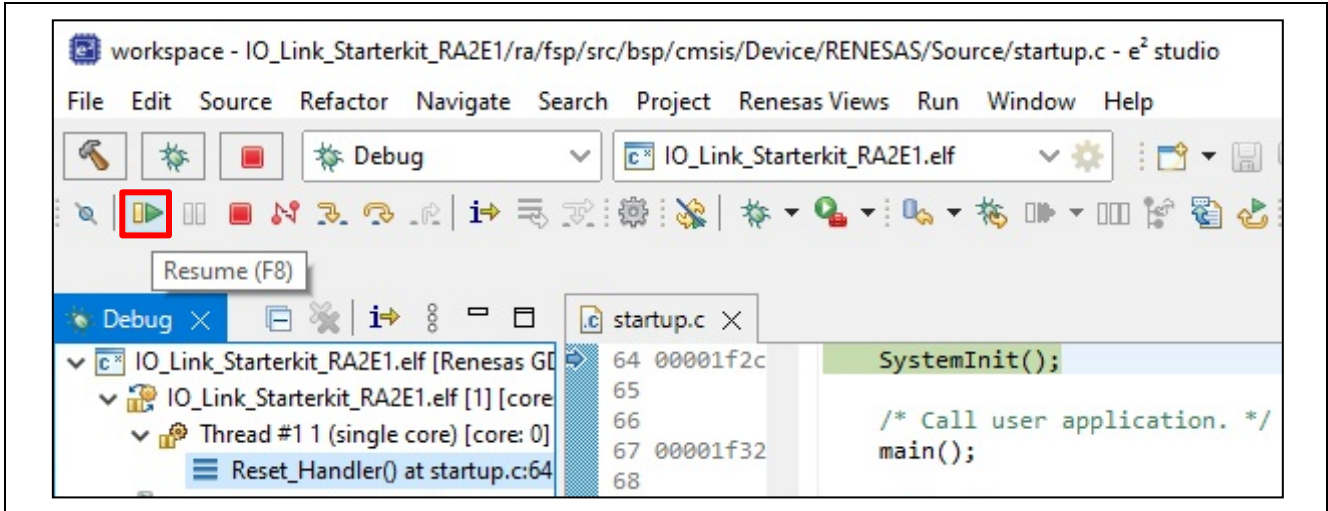

Figure 29. Writing to MCU Completed
4. The sample project is written to the MCU and the screen changes as shown in Figure 29.
1. In the state shown in Figure 29, click the F8 or Resume icon to start running the program.